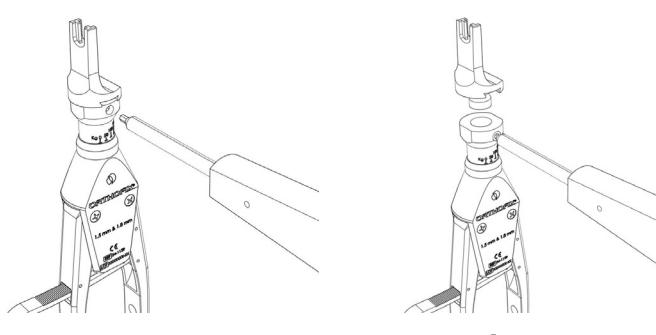

Figure 3
- 3) To exchange the different types of Wire Tensioner Tips, remove the Wire Tensioner's Tip by loosening the locking set-screw with the hex-driver (52-1018) (fig. 3). Do not remove the locking set-screw for any reason.